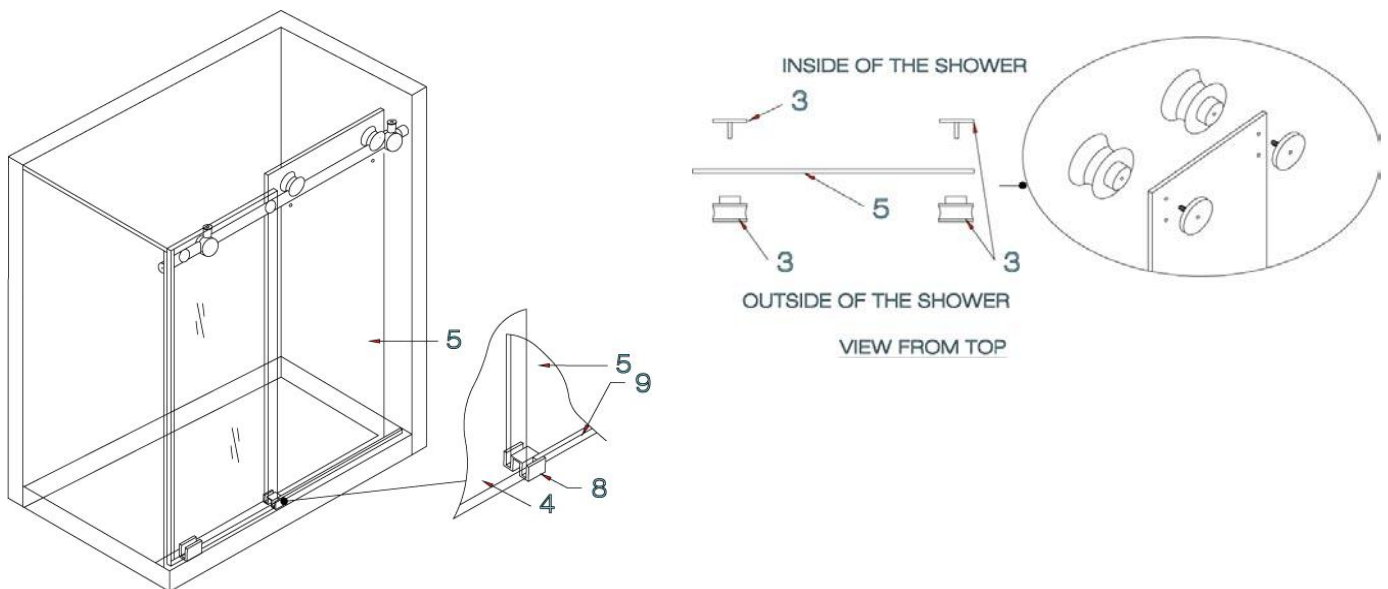

FIG. 8
1. Screw the top rollers (#3) to the door (#5). [SEE FIG.8]